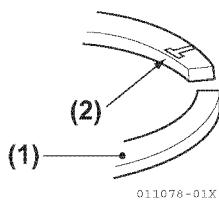

Figure 5-136
- Install each piston ring on the piston, with the punched manufacturer's mark facing upward (**Figure 5-136**).